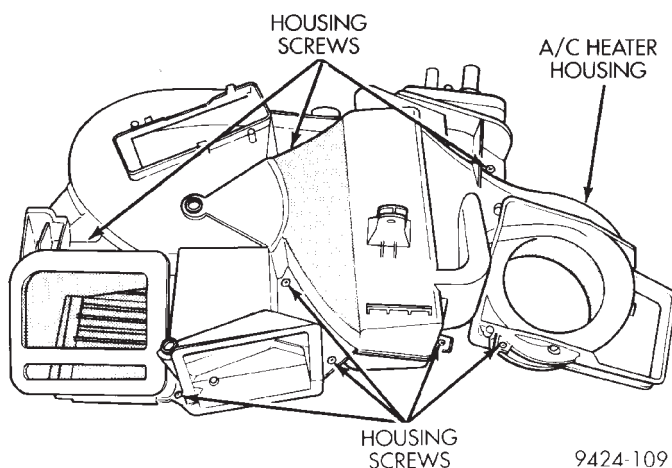

Fig. 41 Housing Retaining Screws
- (5) Remove upper housing retaining screws (Fig. 41).